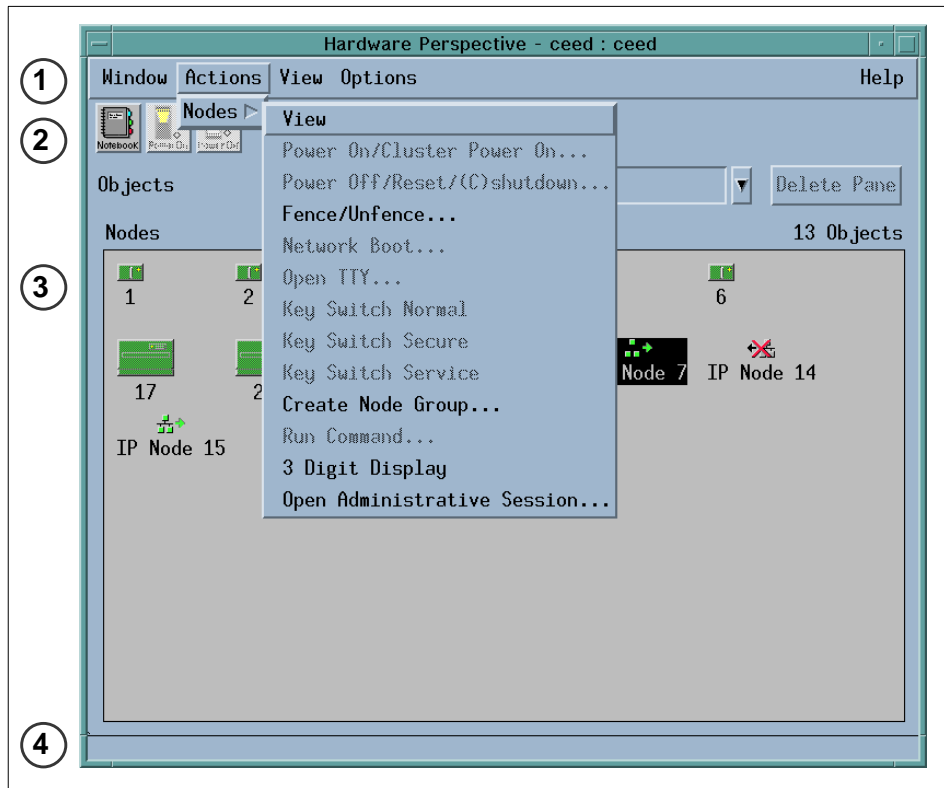

Figure 21. Action Menu
In Figure 21 on page 54, we see that **IP Node 7** is selected in the Nodes pane, and **Actions->Nodes** is selected in the menu bar (1). We see that only the following five actions are available: